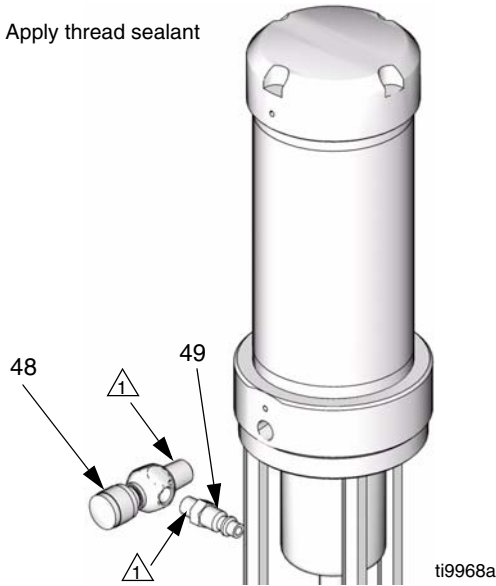

FIG. 4
1. Apply thread sealant to the male threads of the air needle valve (48) and the quick disconnect fitting (49) and install. See FIG. 4